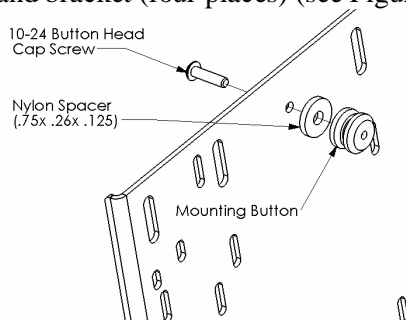
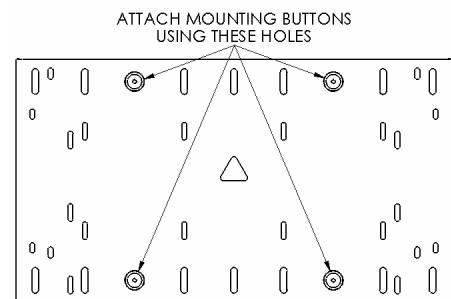

Figure 2
Figure 3
1. Using a 10-24 button head cap screw inserted from back side of bracket, secure mounting button, with chamfered hole of mounting button (larger surface) facing bracket with spacer between button and bracket (four places) (see Figure 2 & Figure3).